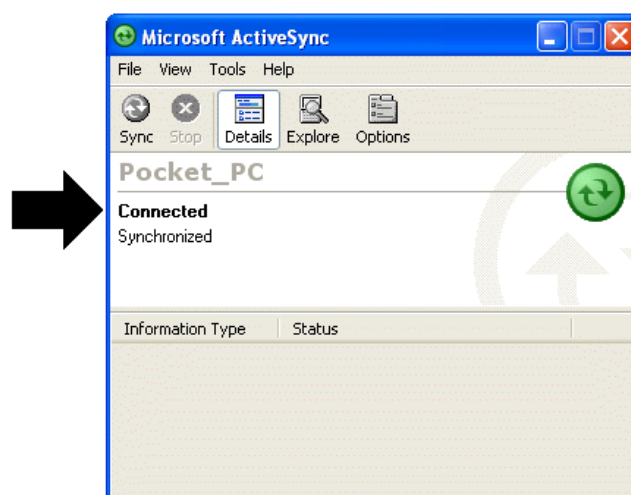

Figure 55. Connection Established.
- 5) Continue with installation as directed. At the end of the wizard, the ActiveSync dialog will indicate the Micro-trans-SPEC computer is **Connected** (Fig. 55). If ActiveSync cannot connect to the Micro-trans-SPEC, see the troubleshooting steps in Section 6.8.